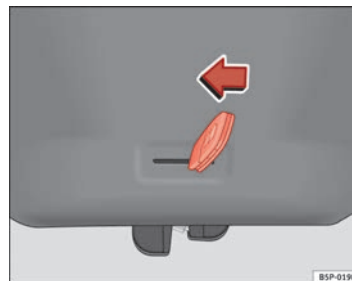

Fig. 66 Rear lid: emergency open
- Insert the key in the groove and unlock the locking system, turning the key from right to left, as shown by the arrow ⇒ Fig. 66. ■